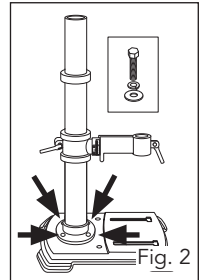

Fig. 2
2. Securely fasten the column (2) to the base using the supplied bolts, washers and spring washers (33) (Fig. 2).